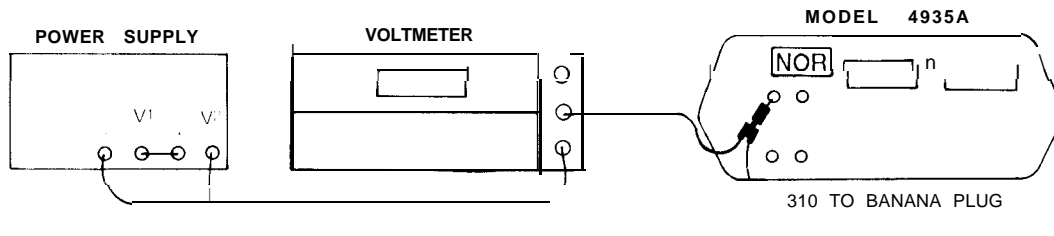

Figure 4-10. Hold Circuit Test
1. Connect equipment as shown in Figure 4-10.